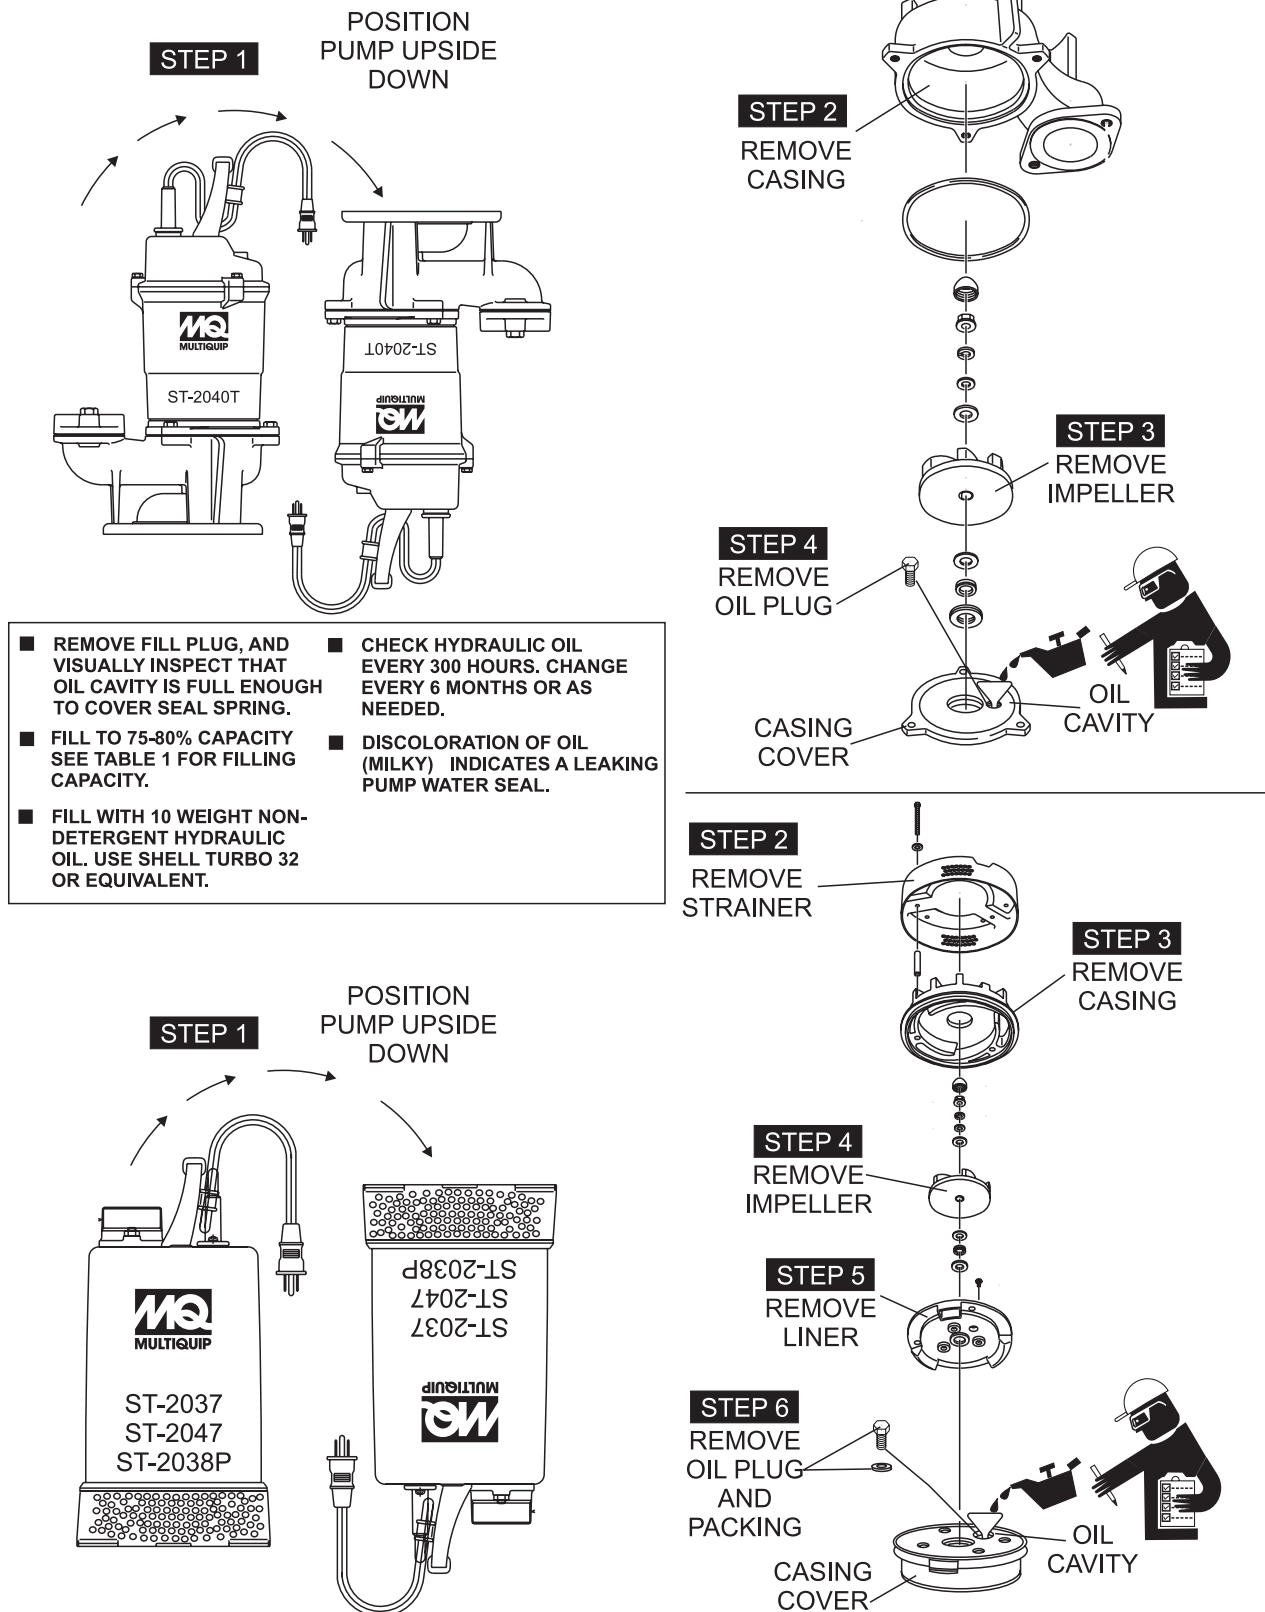

Figure 11. Checking Hydraulic Oil
Refer to Figure 11 for location of parts to be removed.
1. Check pump oil at oil cavity plug (Figure 11). Check every 300 hours and change hydraulic oil every 6 months (1,000 hours) or as needed.